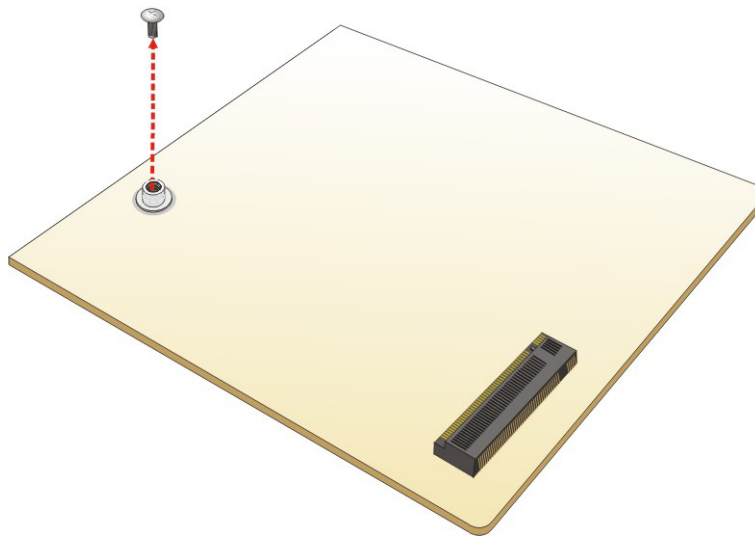

Figure 4-8: Removing the M.2 Module Retention Screw
Step 2: Remove the on-board retention screw as shown in **Figure 4-8**.